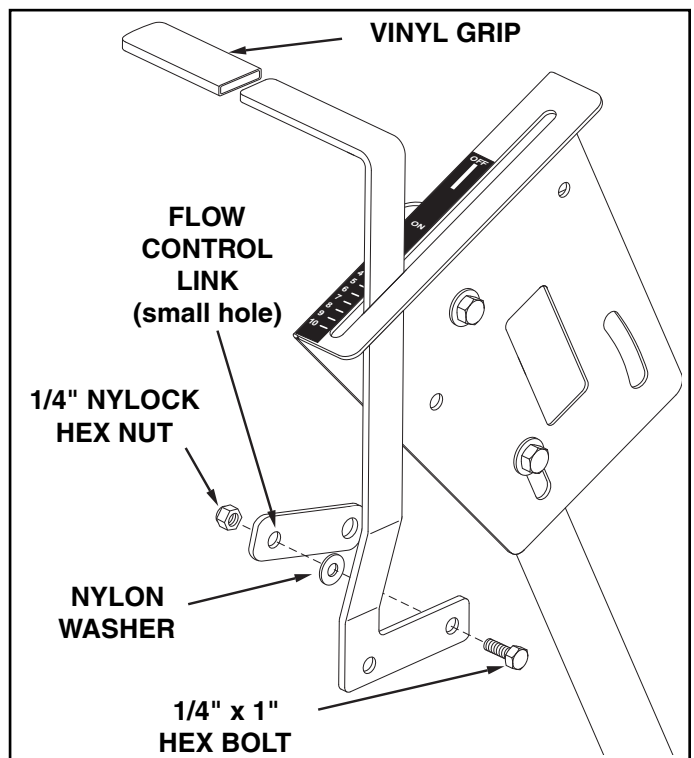

FIGURE 8
- Assemble the vinyl grip onto the flow control arm. See figure 8.
- Insert the flow control arm down through the slot in the flow control bracket. Assemble the small hole of the flow control link to the flow control arm using a 1/4" x 1" hex bolt, a nylon washer and a 1/4" nylock hex nut as shown in figure 8. **Tighten carefully.** The flow control link should be snug but should pivot with no more than slight resistance.